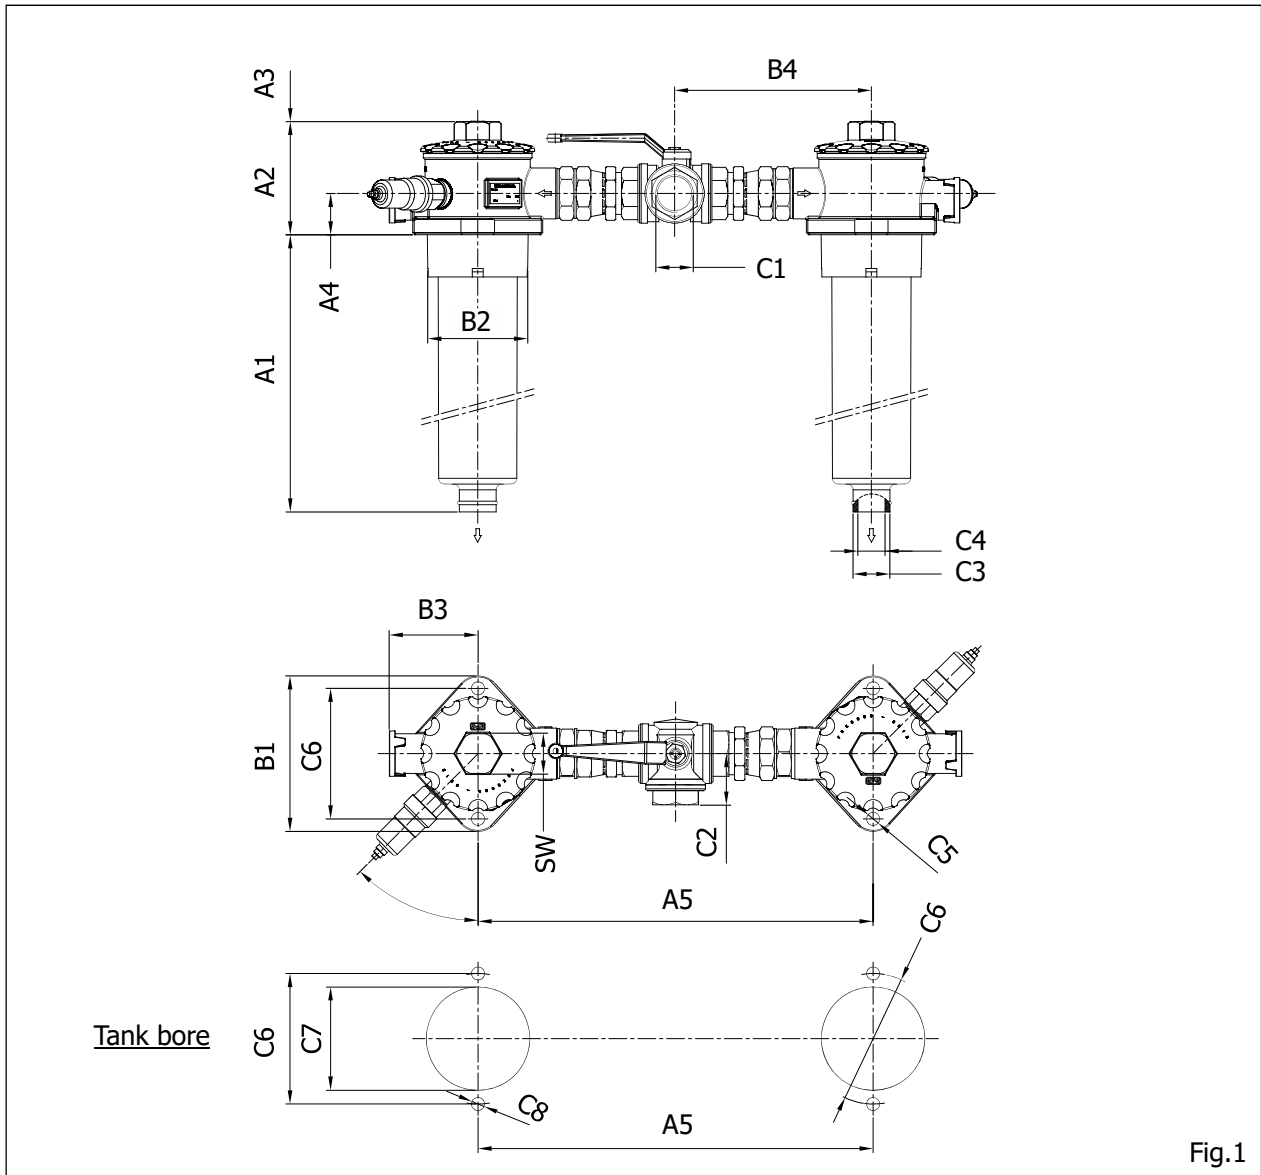

Fig.1
During assembly of the filter the tightening torques (refer page 4), the flow direction (inlet on top and outlet below the bowl) and the required service height (A3 in fig.1) for removing the filter element (4) and the filter bowl (3) are to be considered.
Before the assembly, the hole pattern of the tank must be compared to the tank bore dimensions in fig.1. Check that the installation opening for assembling the filter in the tank cover is not too large so that unobjectionable sealing is guaranteed.